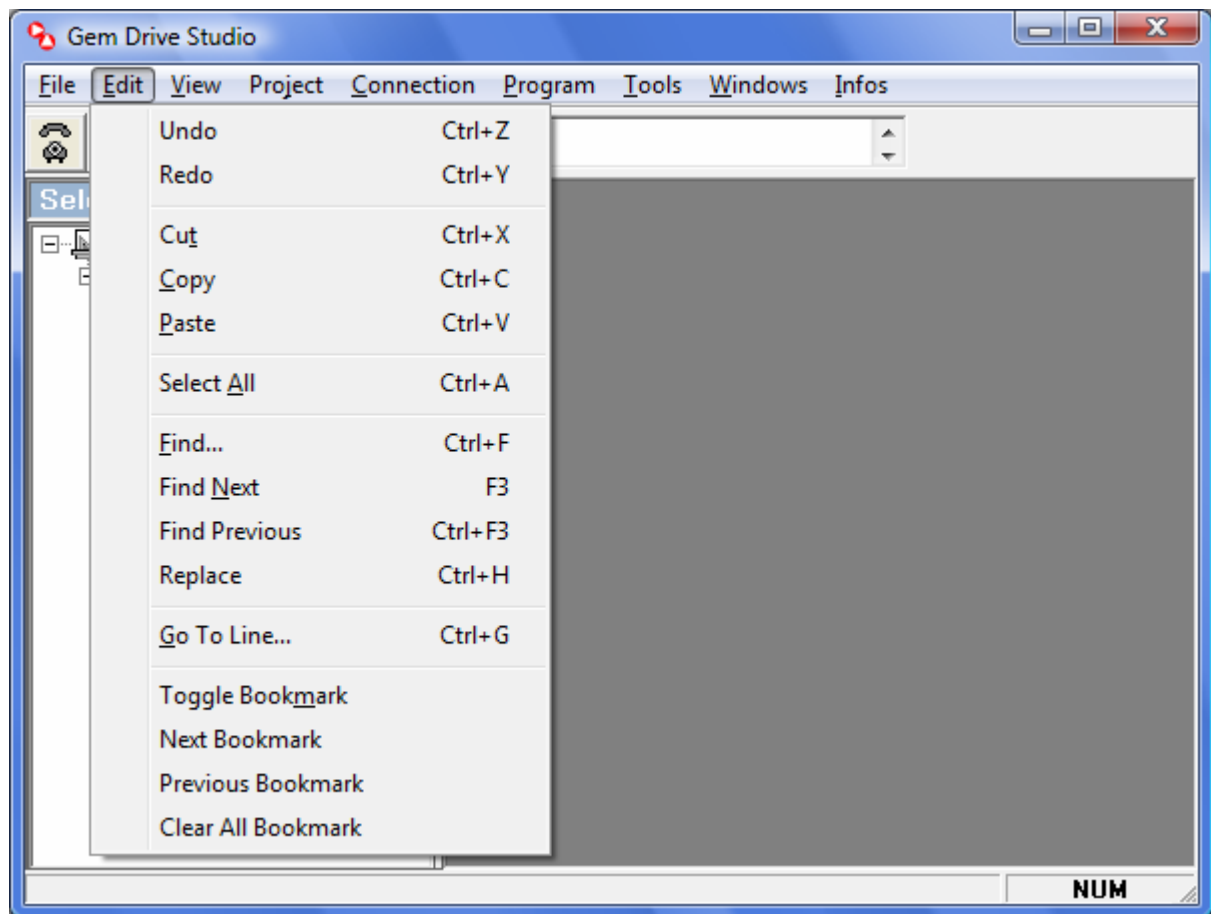

Figure 4-5. Edit Menu.
- a. Goto Line Command from a *Edition Menu*: *Go To Line* (see Figure 4-5) or